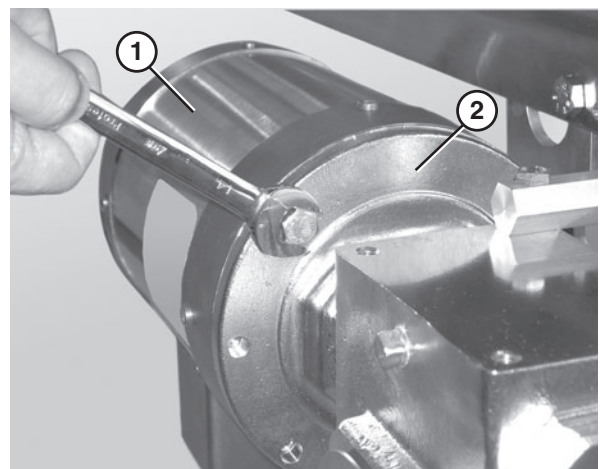

Figure 68
2. Remove the bolts that connect the motor to the drive assembly (**Figure 68**).
3. Remove the motor (**Figure 68, item 1**) from the drive assembly (**Figure 68, item 2**).